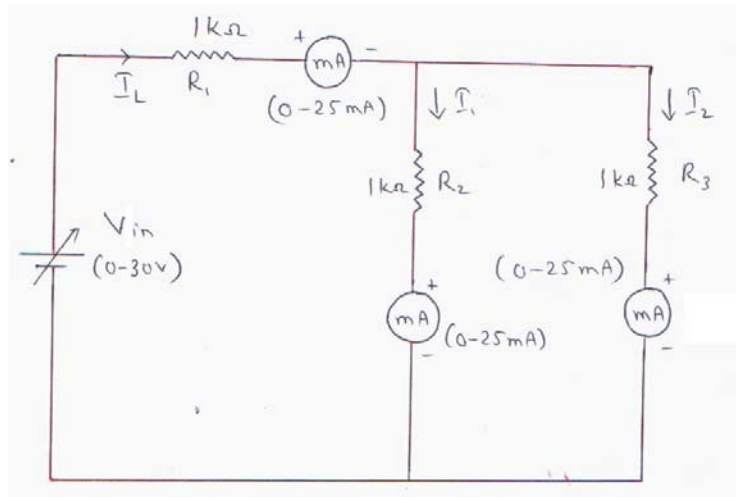

Figure 1.3
1. Give the connection according to circuit shown in figure 1.3